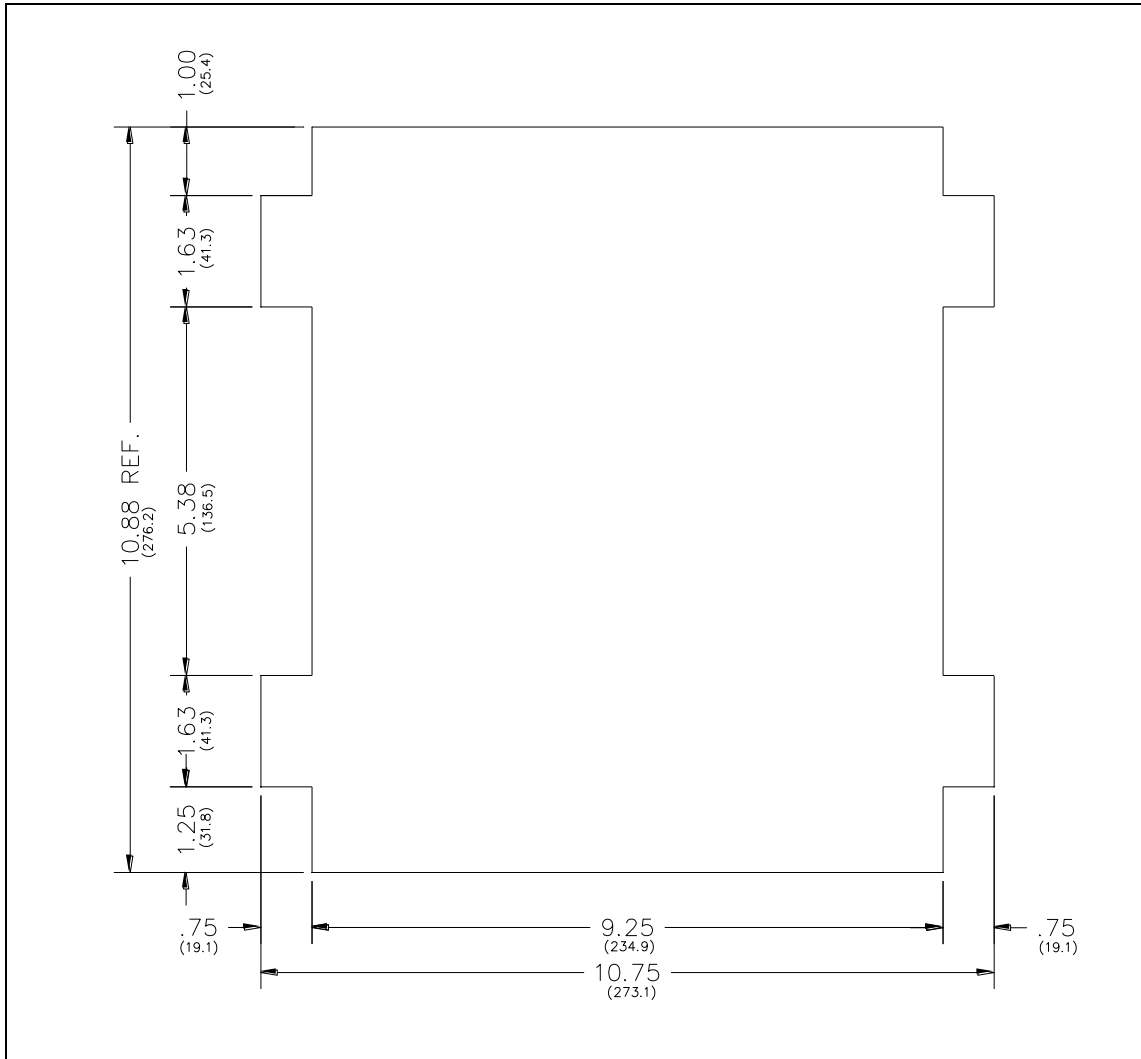

Figure 5. Wall Cut-out Dimensions for Model 112-02-0418-00W
2. Refer to Figure 5 on page 11 for cut-out details. Use the cut-out dimensions as a guide to mark the wall, and make the required cuts.